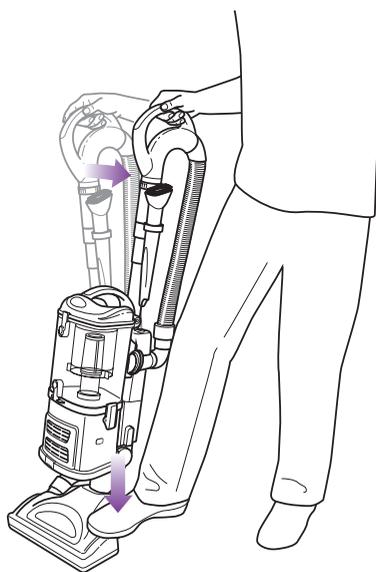

Fig. 12
- 4 Gently press the floor nozzle down with your foot while you grasp the handle and tilt it back towards you. (Fig. 12)